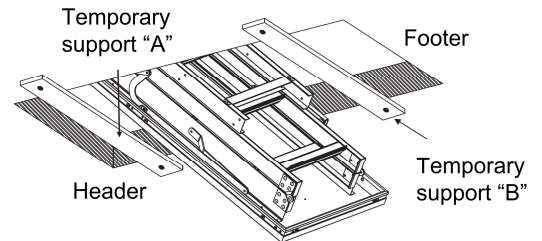

FIGURE 11 : PLACING THE ATTIC LADDER INTO THE ROUGH OPENING
H. Both installers need to work together to position the attic ladder on the temporary support boards. When installer #2 is in the attic and ready to assist. Installer #1 will raise the attic ladder into the rough opening. See **Figure 11**. You must not climb a ladder while lifting the attic ladder into the rough opening or you could fall. If the ceiling height or weight of the attic ladder makes lifting difficult or impractical, secure a rope to the attic ladder so Installer #2 can assist by pulling on the rope to raise the attic ladder into rough opening and placing it on the temporary support boards.